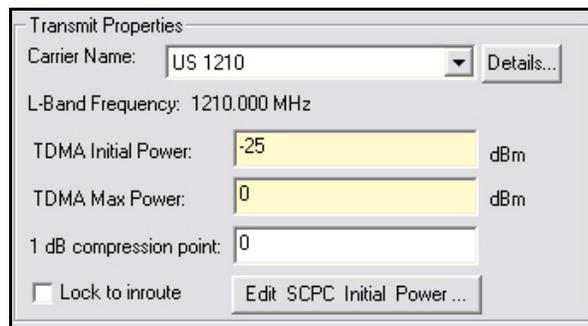

Figure 49. iBuilder Remote Information Tab: Setting TDMA Initial and Max Power
3. On the Information tab of the Remote dialog box, scroll down to the Transmit Properties area of the Information tab (Figure 49).
4. Set TDMA Initial Power (Figure 49) to 2 dB to 3 dB above the transmit power observed in iMonitor. (See “Determining the Remote’s Initial Transmit Power” on page 65.)